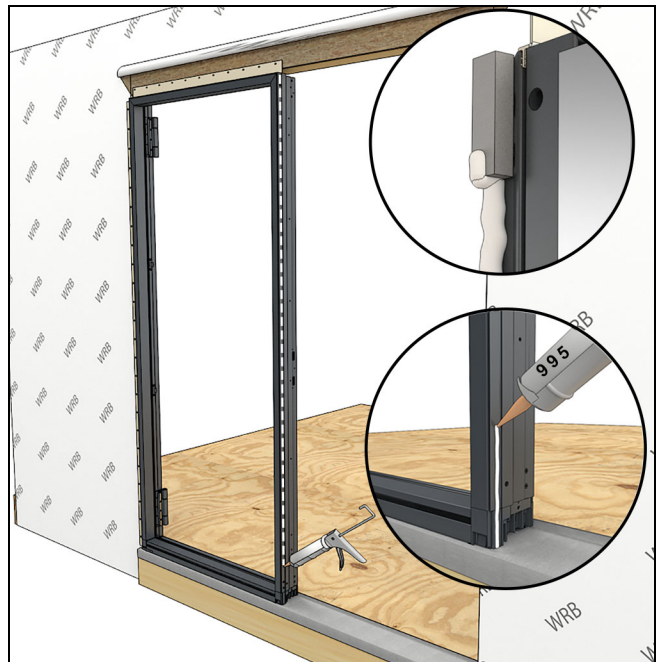

Figure 23
3. Apply foam blocks at the top and bottom of the jamb exterior, then apply 995 sealant to the first unit along the jamb. See Figure 23.